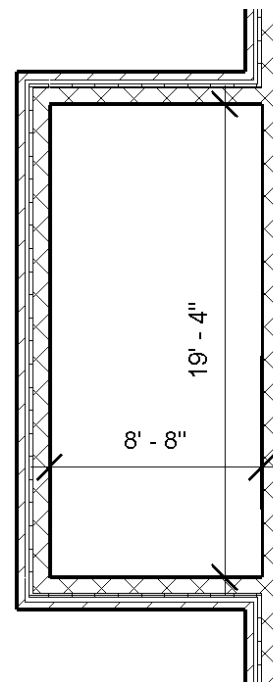

Figure 3-3.8 Revised west stair
23. Draw a wall so the gypsum finish continues on the office side, using the *Align* tool if necessary (Figure 3-3.8). Use the *Measure* tool to make sure the stair shaft is the correct size; don't draw the dimensions.